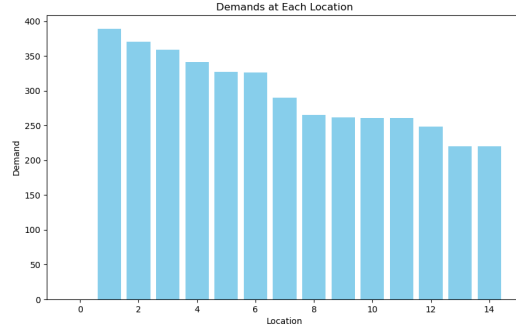

Figure 4: Bar Chart of Demands
- demands: Demands of each point (customer).As figure 4.